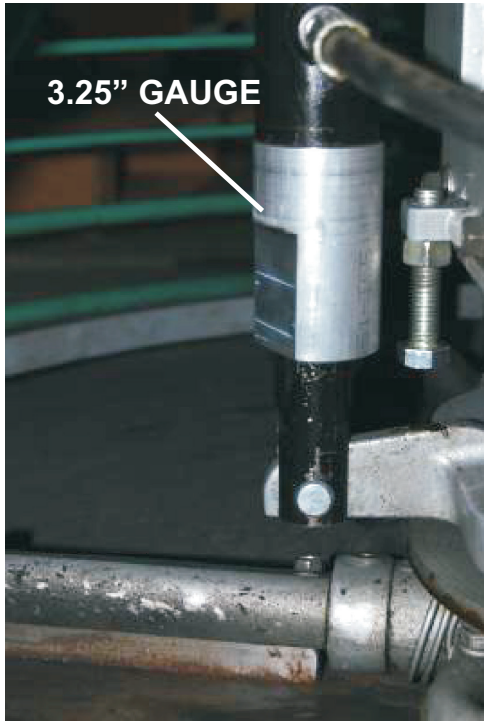

Figure 47. Gauge Installation
- b. Install 3.25" Gauge (P/N 32044) over both Left and Right Cylinders as shown in Figure 47.
- a. Install 2.25" Gauge P/N 32000 over both Left and Right Cylinders as shown in Figure 47.